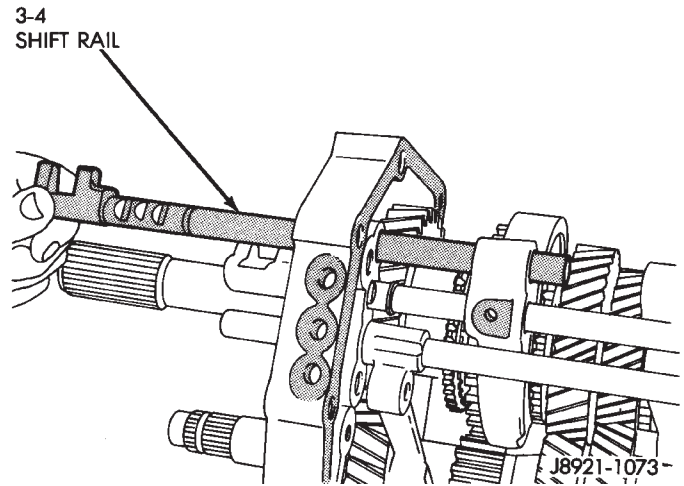

Fig. 71 Remove 3-4 Shift Rail
- (23) Remove the 3-4 shift rail from the 1-2 and 3-4 shift forks and the intermediate plate (Fig. 71).